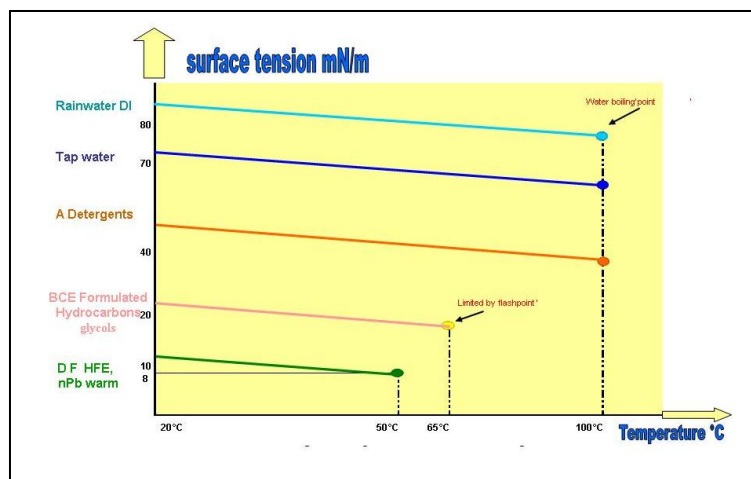

Figure 5, Surface tension chart
Detergents A are good most of the time, but very specific to the type of fluxes to be removed. Its concentration is very important in water and can vary between 3 to 50 % wt in some cases. The temperature can vary from 20-60°C, and the agitation used, sprays, spray under immersion or ultrasonic's should be considered. It is the aqueous cleaning process. The drawbacks of these detergents are: the removal of all residues under components because of the poor/high surface tension included between 40-50mN/m, the aggression of these formulations and its compatibility with materials, the rinsing with tap or DI water (high surface tension 70-80mN/m), the drying operation, the water-proof compatibility and the disposal of soiled mixture. (Figure 5). The total cost of these should also be considered.
Let's consider demineralised water (A) which has a surface tension of around 80mN/m (Figure 5). This line is bending as a function of the increase of the temperature. The variation is of about -10 mN/m. It is the reason why cleaners are warmed up into washing units; to reduce the surface tension and to move underneath cavities and components. There is the same issue with tap water (B), where its surface tension starts at 70mN/m at room temperature.
As solvents evaporate and condense on the free-boards of the vapour phase equipment, no residues are left on the PCBs and the surfaces, including under the components. (Figure 5)